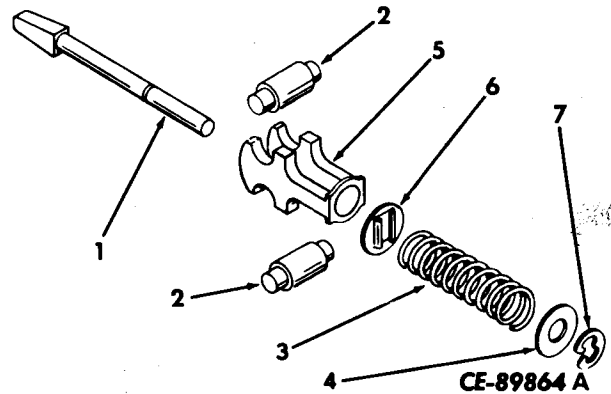

Figure 13-53
Remove wedge and roller assembly from body. Compress spring (3, Fig. 13-53) and remove E-washer (7) and flat washer (4). Slide spring (3) and retainer (6) off wedge (1). Remove rollers (2) from cage (5) by inserting a thin-bladed screwdriver between one flat on the wedge head and roller cage and spreading open just far enough to remove rollers. Slide roller cage off wedge shaft.
Insert wedge shaft (1, Fig. 13-53) into roller cage (5) so angled faces are exposed.